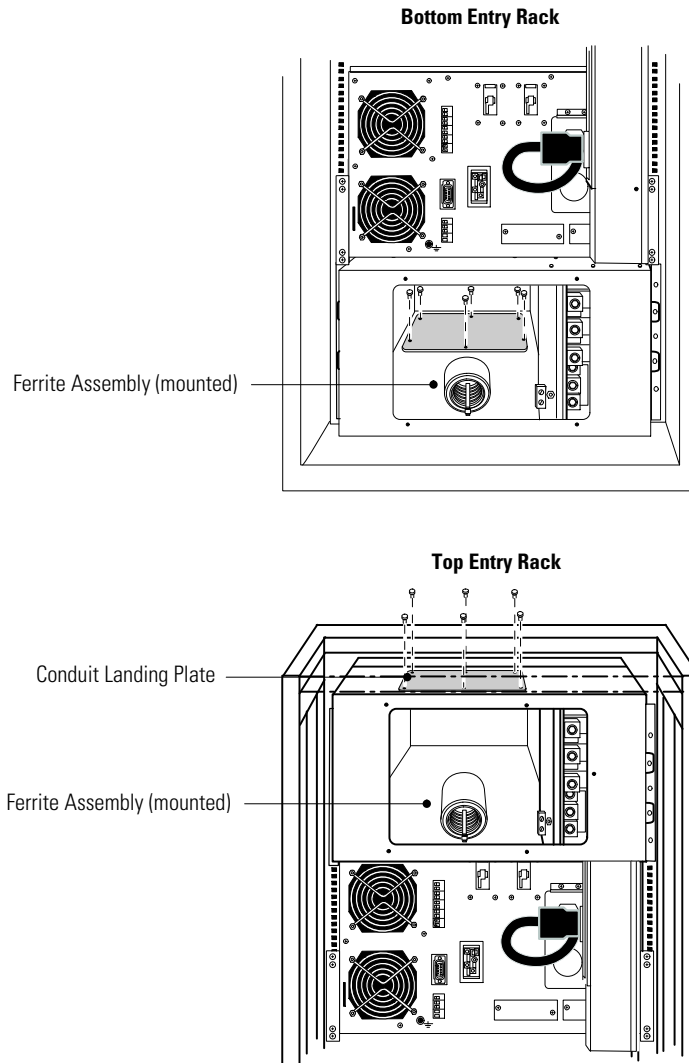
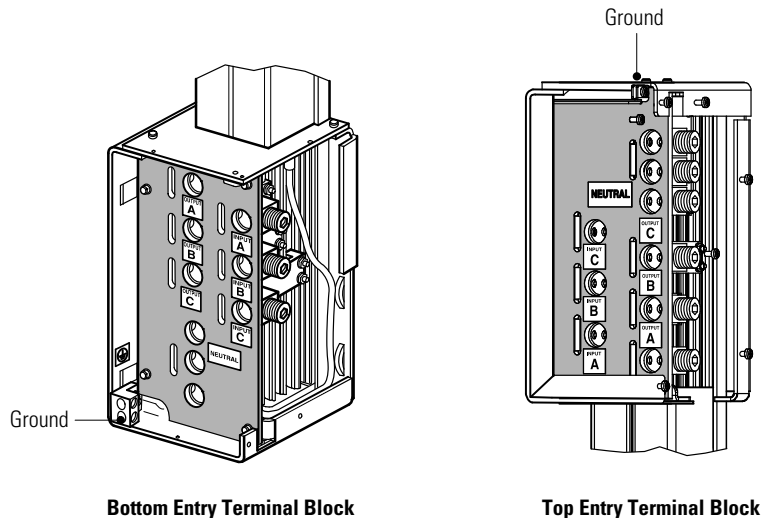

Figure 12. Removing the Conduit Landing Plate
Figure 13. BladeUPS Bar Terminal Block
3. Remove the six screws on the conduit landing plate and retain. Remove the plate and retain. See Figure 12.
- Connect the input, output, and ground wires to the BladeUPS Bar terminal block according to Figure 13 and Table 4. Route the three input phases and the input neutral through the mounted or loosened ferrite assembly (see Figure 12).